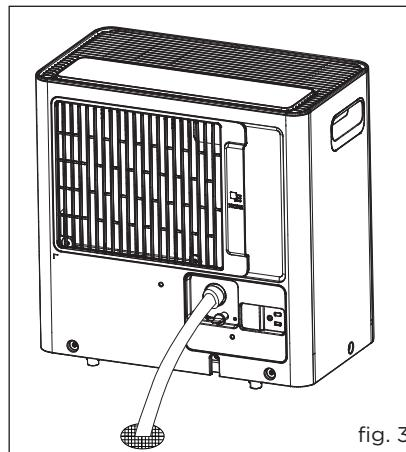

fig. 3
g. Place the end of the hose into the drain. (fig.3)